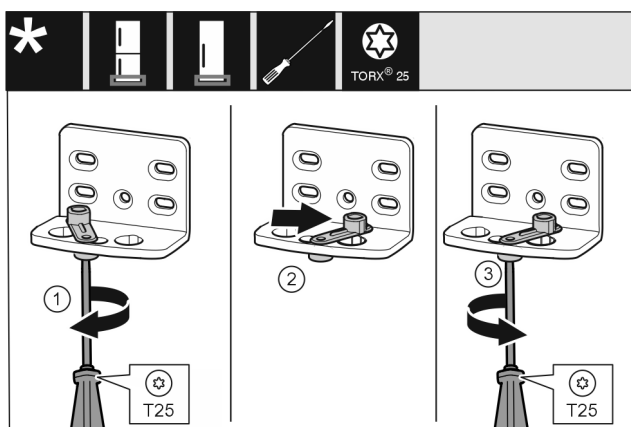

Fig. 14
- Loosen the screw using a T25 screwdriver. Fig. 14 (1)
- Lift the door closing aid and turn it 90° to the right in the hole. Fig. 14 (2)
- Tighten the screw using a T25 screwdriver. Fig. 14 (3)